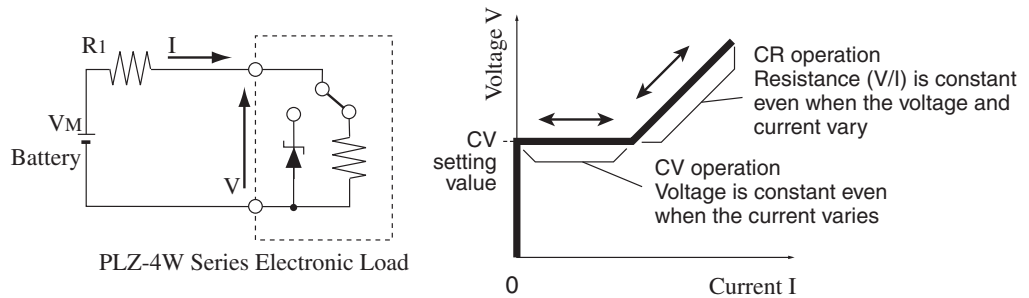

Fig. A-14 Equivalent circuit of the CR+CV mode and operation
When the PLZ-4W is used in CR+CV mode, the PLZ-4W operates as a constant resistance load and a constant voltage load (shunt regulator) as shown in Fig. A-14. When operating as a constant resistance load and the voltage ( $V_M$ ) of the constant-voltage power supply is varied, the PLZ-4W sinks current to meet  $I=V/R$  according to the specified resistance  $R$ . When operating as a constant voltage load and  $V_M$  is greater than  $V$ , the input voltage  $V$  is kept constant even when the input current  $I$  varies. Current does not flow when  $V_M$  is less than or equal to  $V$ .
The switching between the modes is automatic. In the Fig. A-14,  $R_1$  is the internal resistance of the constant-voltage power supply. In constant-voltage (CV) mode, the PLZ-4W may operate unstably if  $R_1$  is low.
We will consider the case when checking the discharge characteristics of a battery in Fig. A-14.